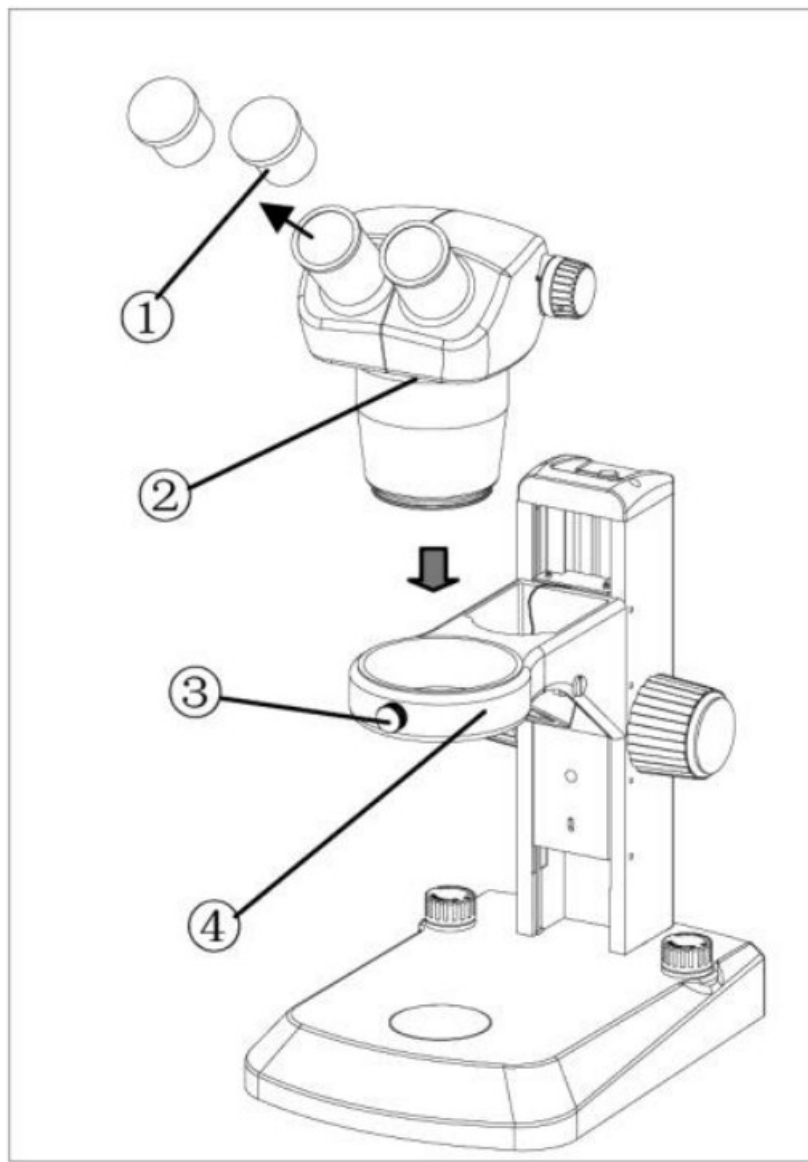
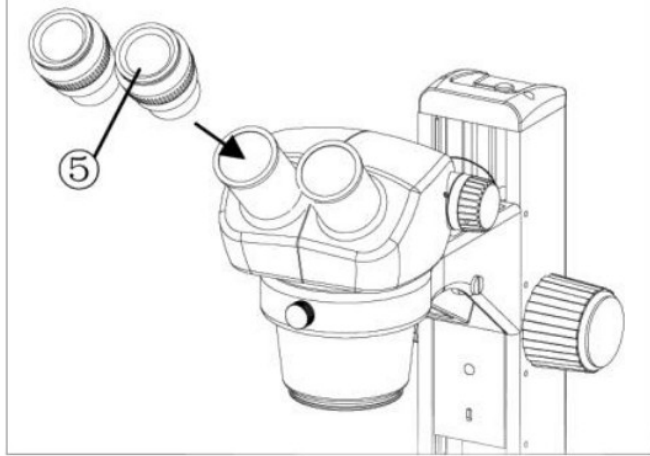
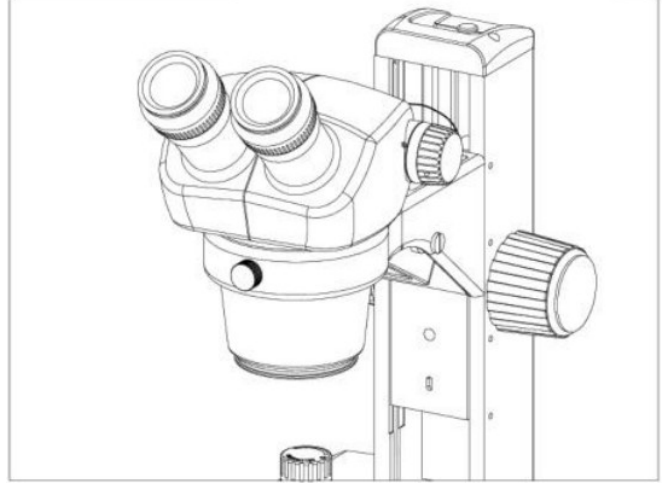

Fig. 1
Fig. 2
Fig. 3
Mounting the Eyepieces (Fig.1, Fig.2, Fig.3)
Remove the eyepiece dust caps ① (Fig. 1) and gently insert the two adjustable eyepieces ⑤ (Fig. 2) into the eyepiece sleeves until they stop, as shown in Fig.3. Using the 1.5mm allen key, tighten the allen screws on the eyetubes to lock the eyepieces into the tubes.